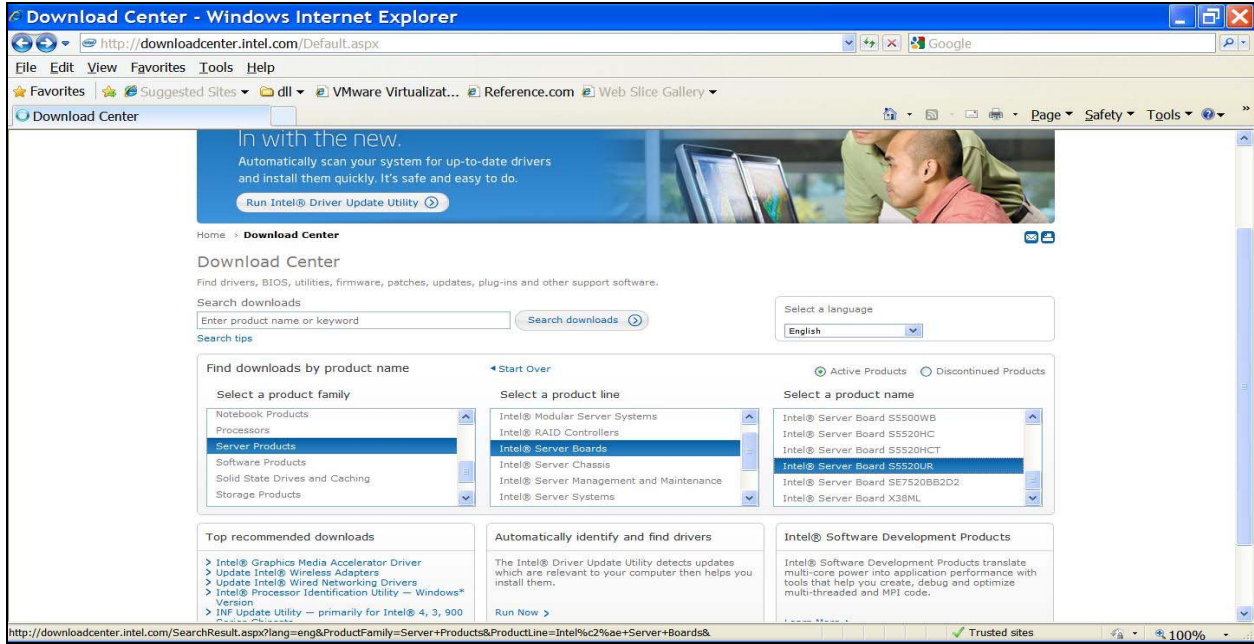

Figure 2. Download Center Page 1
1. Go to [Intel® Download Center website](http://downloadcenter.intel.com/) and select Product family as “Server Products”, Product Line as “Intel® Server Boards” and the Product Name as “Intel® Server Board S5520UR” as shown in Figure 2.